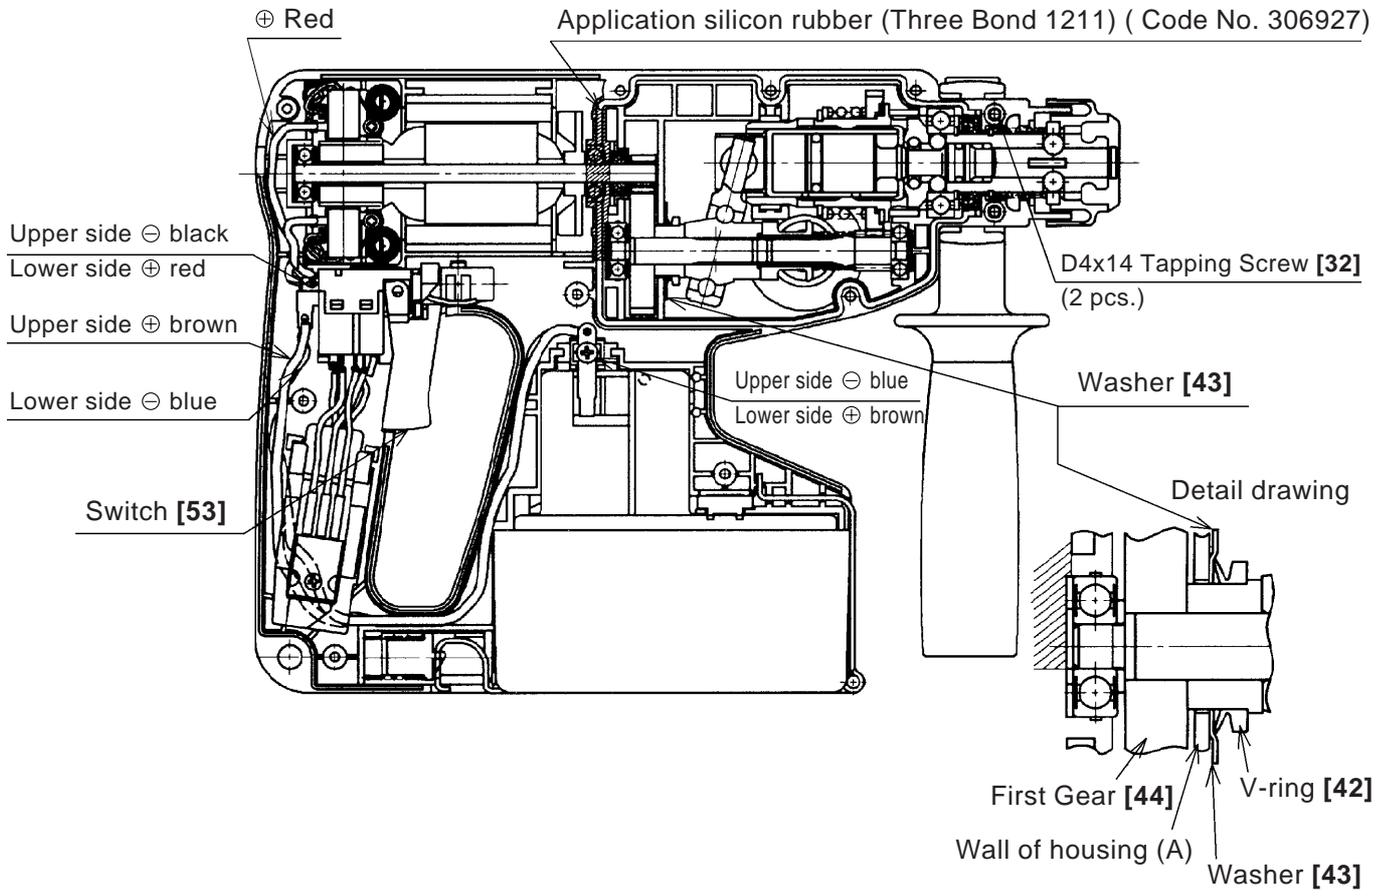

Fig. 2 Wiring arrangement and port locations
- (1) Be sure to perform wiring connection as indicated in Fig. 2.
- (2) Pay attention to the polarity of the Terminal Piece [67], and the Internal Wires [54] and [55] when mounting them to Housing (A). Be careful that the blue and brown Internal Wires cross at the midpoint.
- (3) Insert the Armature [28] into the Magnet [29] facing its no-notch side inward. Be careful not to scratch the Armature [28] because the magnet attracts the Armature [28].
- (4) Position the Washer [43] between the wall of Housing (A) and the V-ring [42] when mounting the Second Pinion [36] to the main body. Be careful not to position the Washer [43] between the wall of Housing (A) and the First Gear [44].
- (8) When installing the two D4 x 14 Tapping Screws [32], be very careful not to install the D4 x 20 Tapping Screws (W/Flange) [33] (black color) by mistake. Their positions are clearly designated in Fig. 2.
(9) Tightening Torque